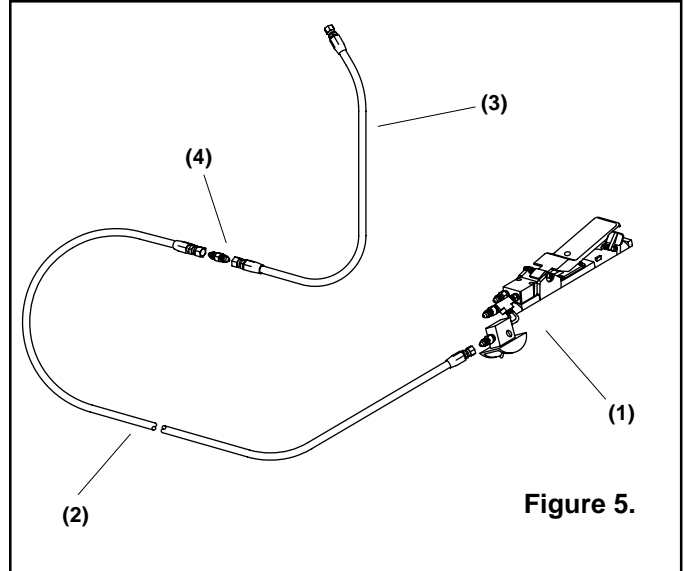

Figure 5.
**7.3 ACS Systems Replacement parts, Figure 5**